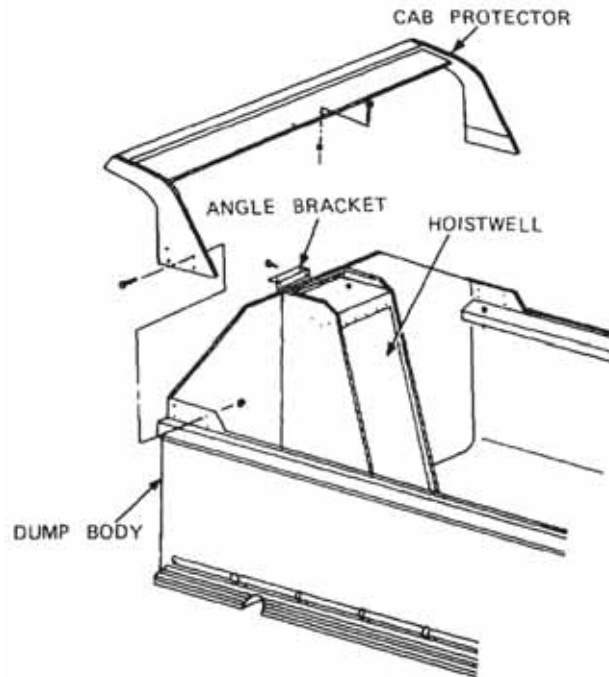

Figure 15 Cab Protector Removal
- a. Remove the two nuts and bolts securing the cab protector to the angle bracket at the top of the hoistwell (Figure 15). Discard the nuts.